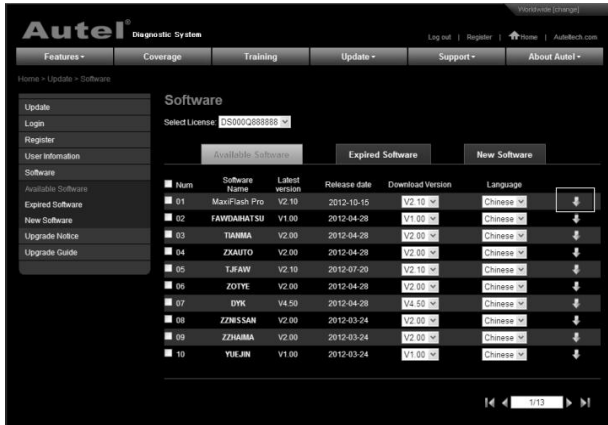

Figure 5.2
3. Find out the latest released software version, click on the download icon on the right of the selected item. (Figure 5.2)